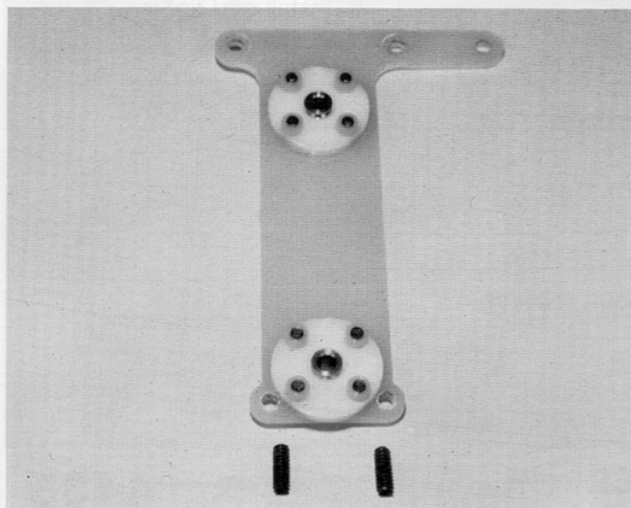

Fig. 15
□ **Fig. 15**—Install the two long set screws into the top of the T-bar where shown. Just screw them in far enough so they just start to come through the bottom side, but **NO MORE**.